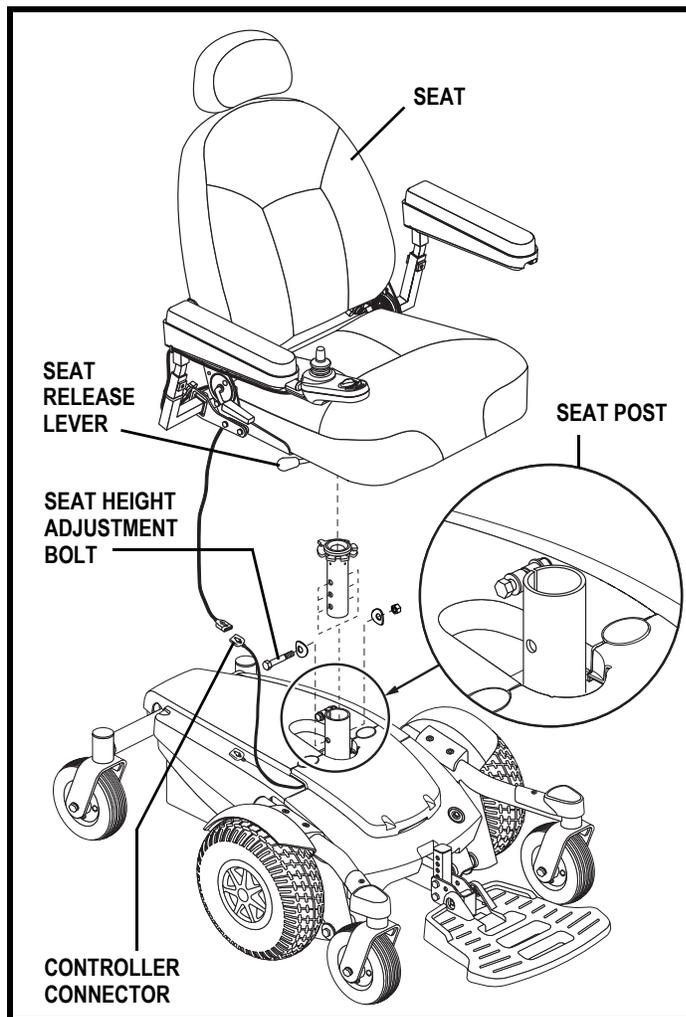

Figure 12. Seat Height Adjustment
3. Disconnect the controller connector from the power base. See figure 12.
4. Disengage the seat release lever. See figure 12.
6. Loosen the hardware at the rear of the seat post. See figure 12.
7. Remove the seat height adjustment bolt, washers, and nut from the seat post. See figure 12.